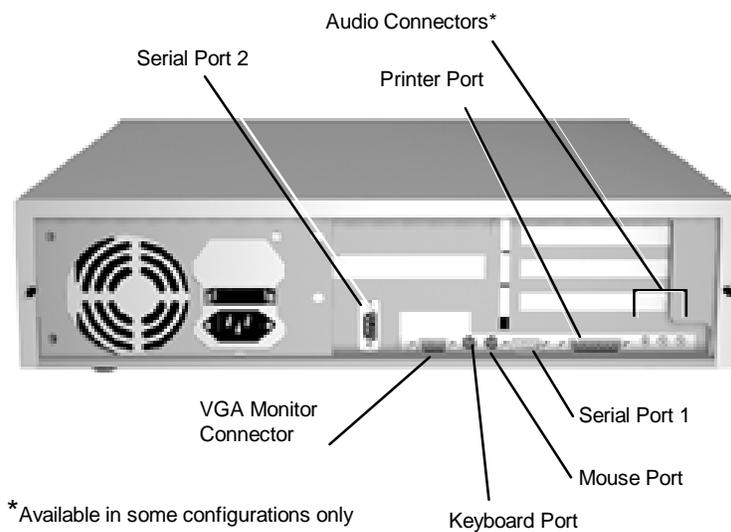

Figure 2-2 Peripheral Connections
2. Connect the keyboard, mouse, monitor, and printer cables to the back of the system unit (see Figure 2-2).